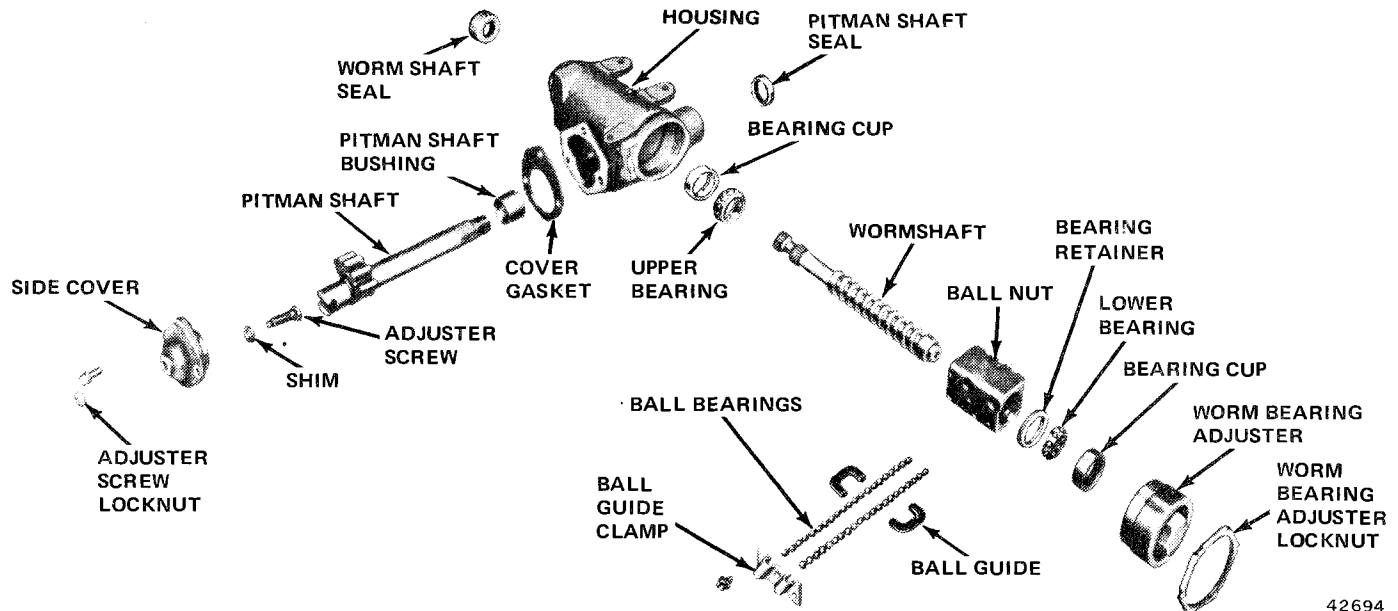

Fig. 2K-3 Steering Gear—Left-Hand Drive Vehicles
(6) Remove pitman shaft from housing. If necessary, tap shaft lightly to remove. Do not damage pitman shaft bushing when removing shaft.
(7) Remove worm bearing adjuster locknut.
(8) Remove worm bearing adjuster.
(9) Remove bearing retainer and wormshaft lower bearing from worm bearing adjuster. Use screwdriver to pry retainer out of adjuster and remove bearing.
(10) Remove wormshaft and ball nut from housing (fig. 2K-4).